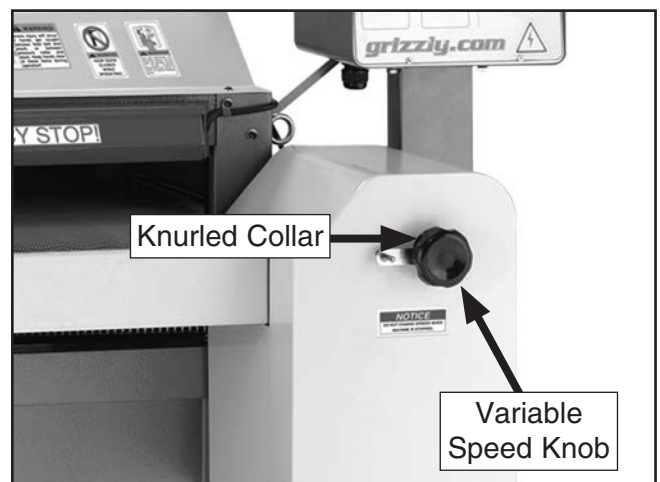

Figure 26. Variable speed knob.
2. Turn the knurled collar clockwise to release the variable speed knob (**Figure 26**), then rotate the knob counterclockwise to increase the feed speed or clockwise to decrease the feed speed.